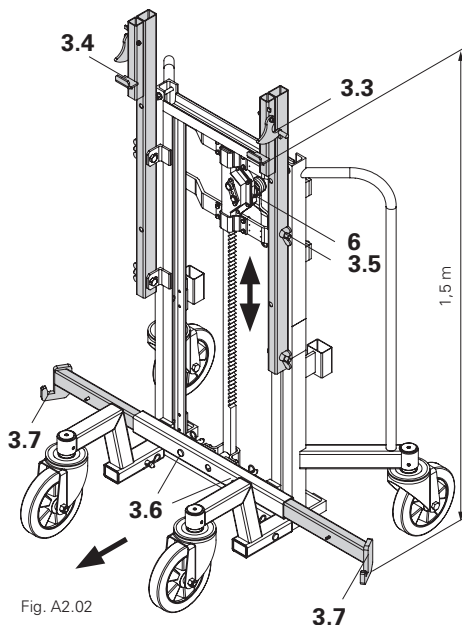

Fig. A2.02
Assemble Connectors Rosett (3.1, 3.2) so that the safety pawls (3.3) face outwards in each case. (Fig. A2.02)
3. Pre-adjust connection height with the winch (6). (Fig. A2.02)
(Fig. A2.02)